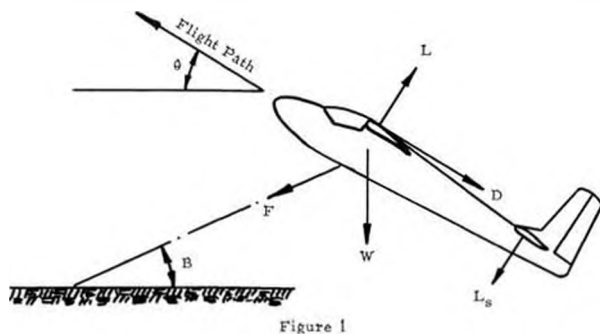

Figure 1
In Figure 1 it can be seen that the lift force (L) must always balance the down-